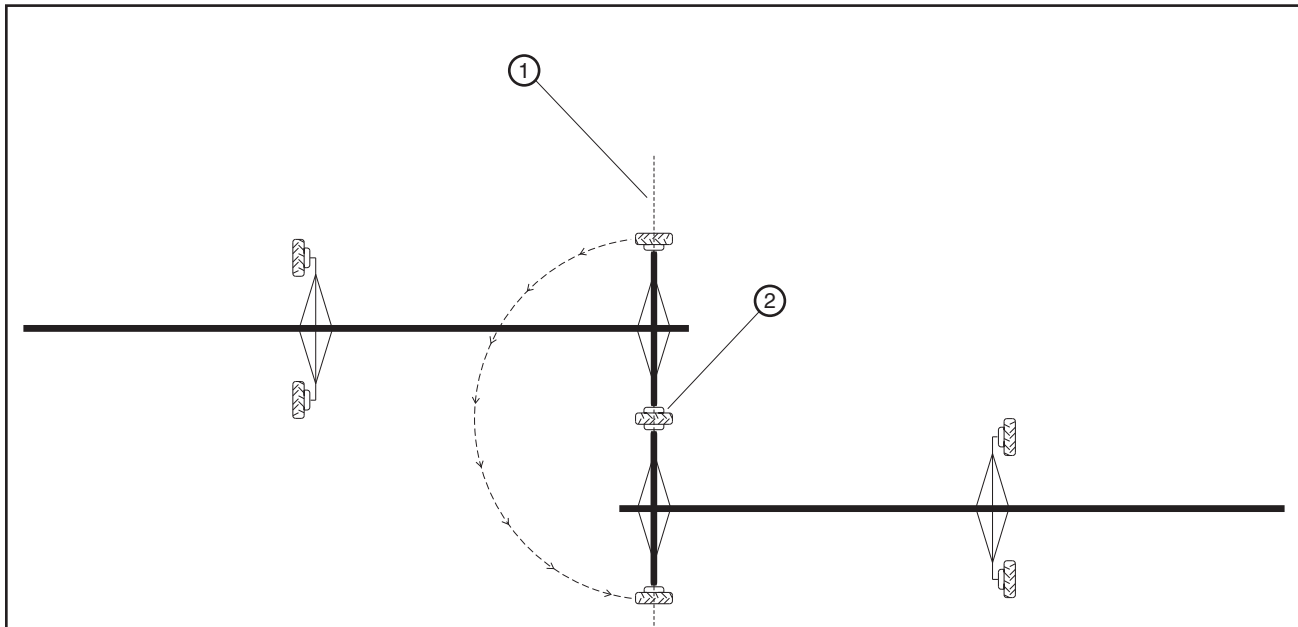

Figure 58-2 Fixed Wheel method.
7. When the machine is started it will pivot around the center of the fixed wheel. See figure 58-2.